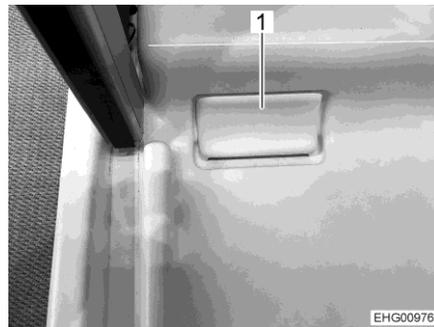

Fig. 135 Shower tray cover
- Carefully remove the cover (Fig. 135,1) in the corner of the shower tray using a pointed object.